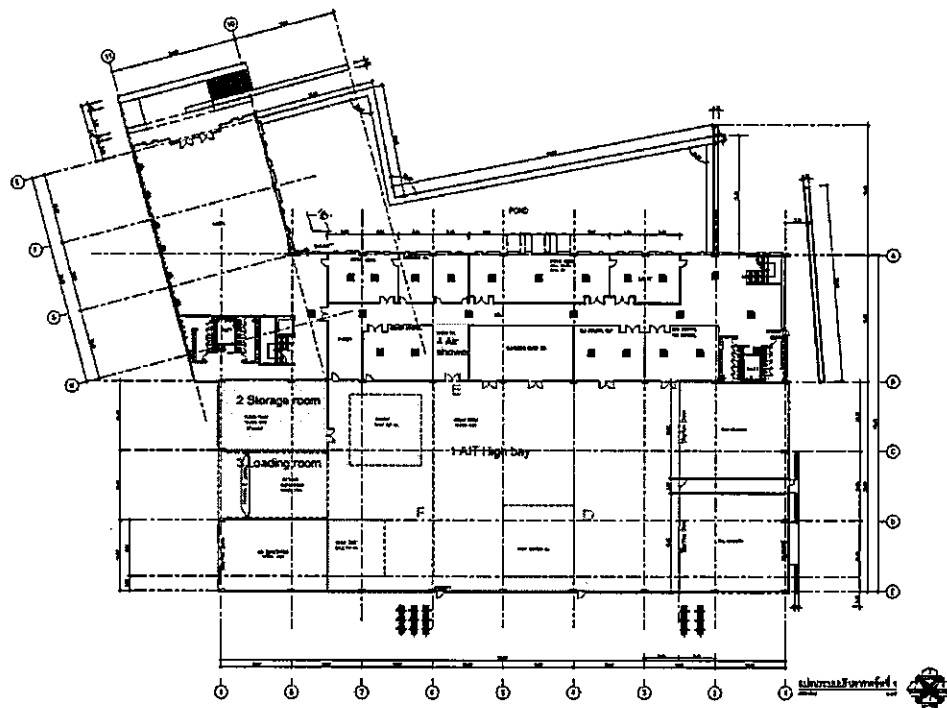

Figure 3: Layout of clean room and air shower
- 1.9 There must be an installation of an at least 1 set of air shower room or air shower equipment in area as depicted in figure 3. The area must be 5 meters in width and 8 meters in length and must include an area for locker, luggage storage facility and closet for grounding coat for prior to entering the clean room.